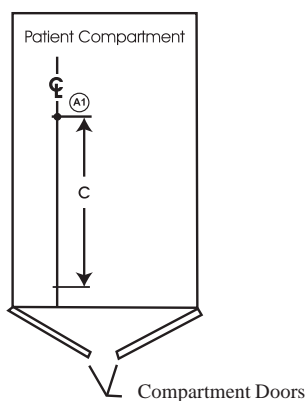

Figure 6 - Measurement C and Antler Point A1
2. Starting from the mark made in Step 1, measure along the Centerline toward the front of the ambulance and mark a point for Measurement **C** (Figure 6). Label this point as Antler Point A1.